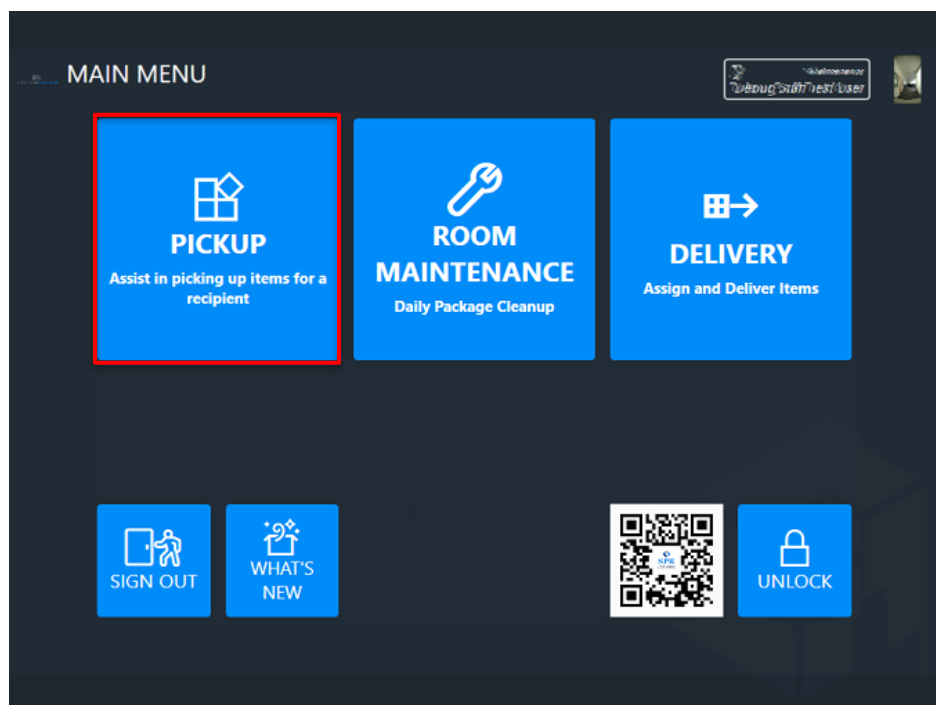

Figure 76: Main Menu screen
2. Tap **Pickup** from the Main Menu screen. See Figure 76.